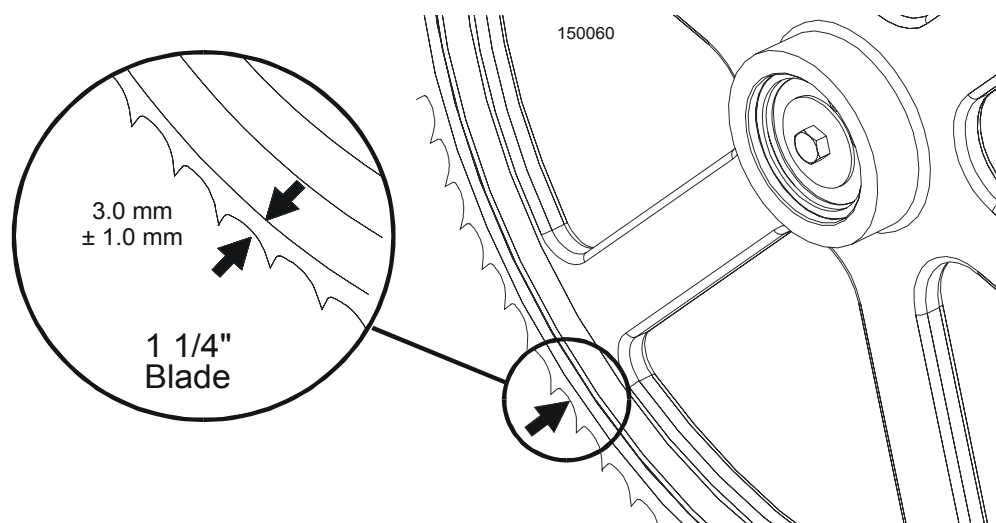

**FIG. 6-5**
**See Figure 6-5.** Use the vertical adjustment screws to adjust the idle-side blade wheel. To tilt the wheel up, loosen the bottom adjustment screw one quarter turn. Loosen the jam nut on the top adjustment screw and tighten the screw. Tighten the top and bottom jam nuts.